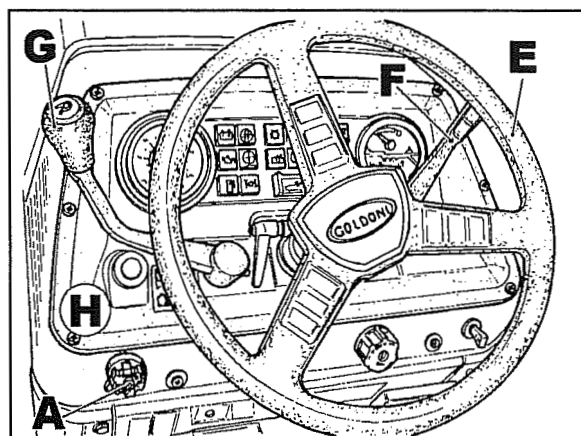
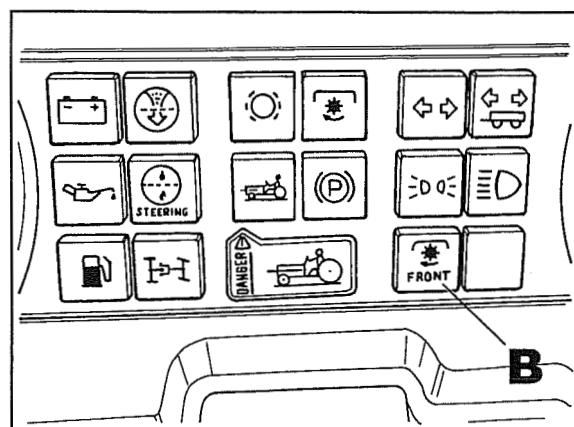
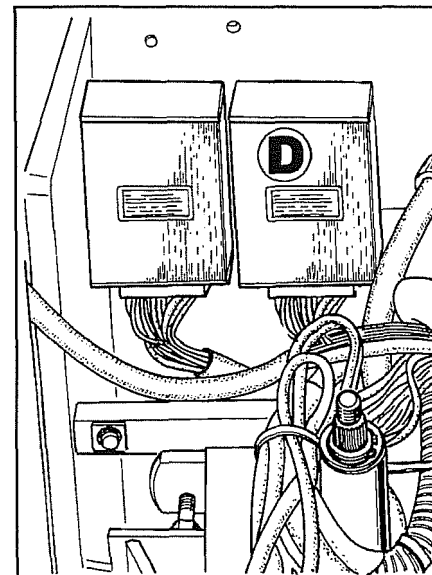

Fig. 1.1
Fig. 2.1
Fig. 4
Press switch **A** fig. 1.1 and turn it to the right. LED **B** fig. 2.1 on the instrument panel will begin to flash to signal gradual engagement by means of the central control unit. When the PTO is engaged, the LED will stop flashing and stay lit.
If the clutch does not engage, press switch **A** fig. 1.1 again to reset it to its original position, set the engine at higher Rpm and repeat the steps described above.
If instead of 12V you get a lower reading or none at all, you will have to find the fault: on the wiring, on the earth circuit, on the switch **A** fig. 1.1 or on the central control unit **D** fig. 4.
2.2 Remove the steering wheel **E** fig.1.1, the hand throttle lever, the creep/reverse range lever **G** and the instrument panel **H**.